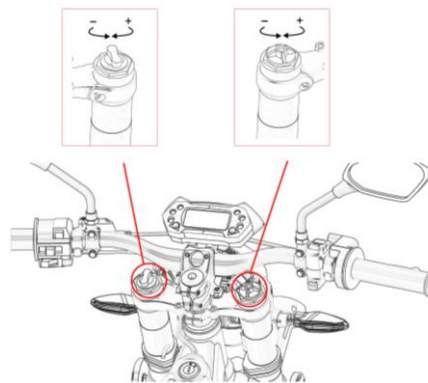

Fig 7
6.2.1 Tune front shock absorber(see Fig 7)